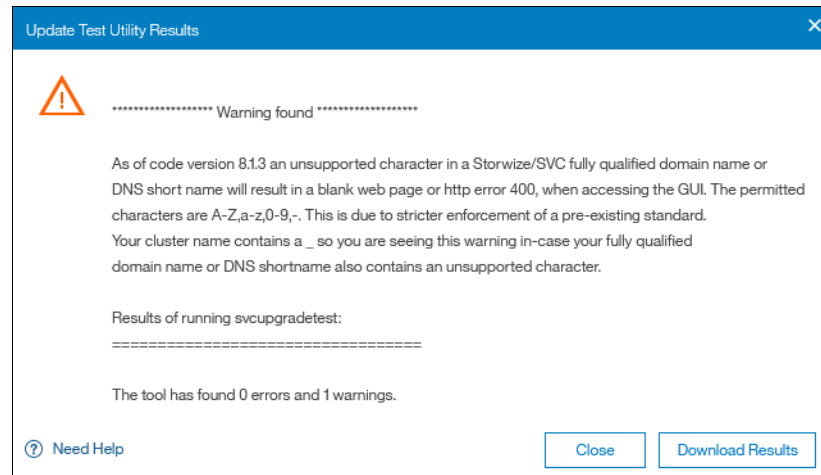

Figure 7-53 Description of the warning from the test utility
- The results pane opens and shows you what issues were detected (Figure 7-53). In our case, the warning is that we have a potential unsupported character as part of our cluster name. Although this is not a recommended condition, it does not prevent the system update from running. Therefore, we can click **Close** and proceed with the update. However, you might need to contact IBM Support to assist with resolving more serious issues before continuing.